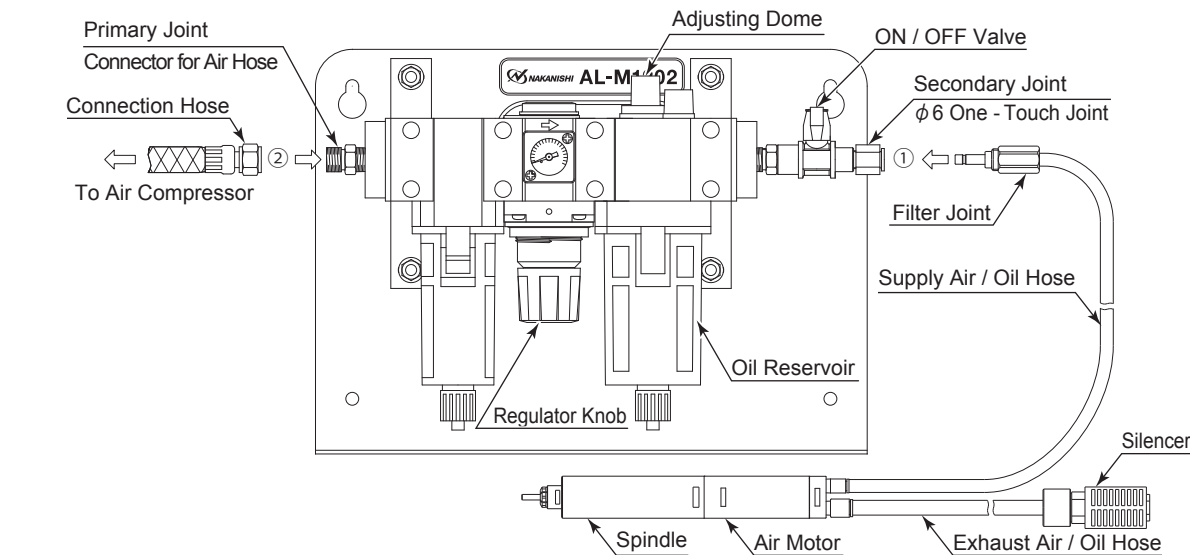

Fig. 4 Connection of Air Line Kit "AL - M1202 (Sold Separately) "
- Connect the Filter Joint of the supply air / oil hose to the Secondary Joint ($\phi 6$ One - Touch Joint) of the Air Line Kit (Fig. 4 ①).
- Connect the connection hose (Air Line Kit's Standard Accessories) to the Primary Joint of the Air Line Kit and Compressor (Fig. 4 ②).